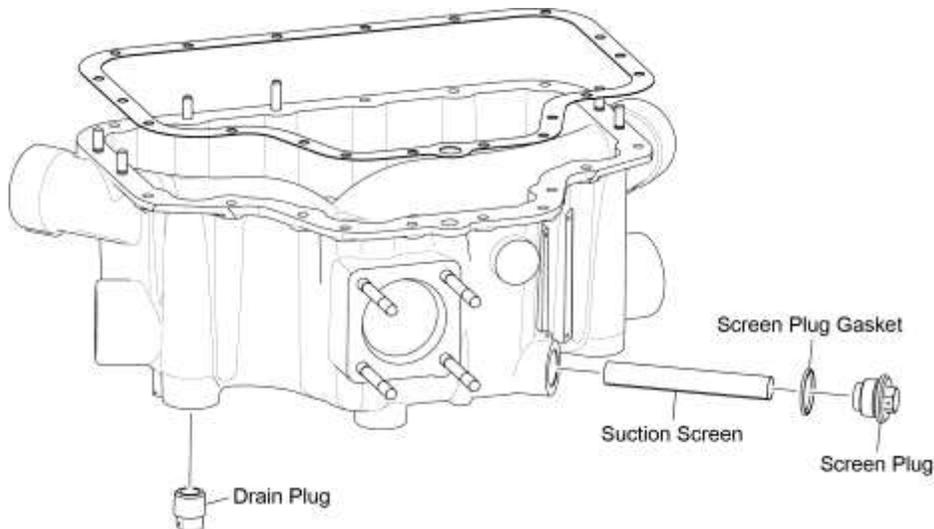

Figure 2
- (1) Put a 15-quart (14-liter) capacity under the drain plug of the oil sump.
- (2) Remove and discard the safety wire/cable from the oil drain plug (Figure 2). The drain plug has a square head.
- H. Safety cable/wire the oil sump drain plug(s), suction screen plug (Figure 2), and oil filter (if applicable) in accordance with the standard practices per the latest revision of AC43.13-1B or the latest revision of Service Instruction No. SI-1566.
NOTICE: On the L1O-360-B1G6 (Figure 2) engines there is an oil suction screen in the oil sump.
- A. Remove and discard the safety/cable wire/cable from the suction screen plug and oil drain plug on the oil sump (Figure 2).
- (1) Examine the oil suction screen for distortion, deformation or openings in the mesh and/or metallic particles, shavings, or flakes (which can be an indication of possible excessive internal wear on the engine).
- (2) Examine any material trapped in the oil suction screen. Examine the condition of the oil and particles on the oil suction screen. Look for shining, metallic residue.